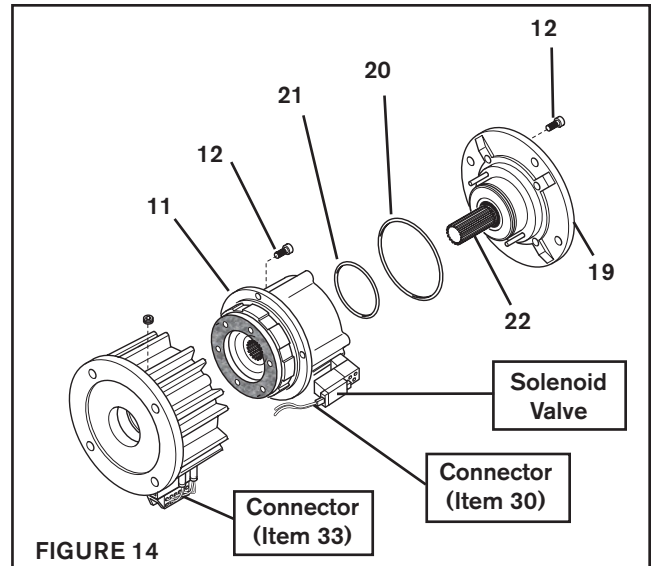

FIGURE 14
1. Disconnect the Red and Black leads from the Connector (Item 30), located on the Solenoid Valve, from Terminals 5 and 6 of the Connector (Item 33) by pushing a screwdriver into the slot on the top of the Connector; then, pull the two leads from the Solenoid Valve out of the Connector (See Figure 14).
2. Remove the four Socket Head Cap Screws (Item 12) and separate the two halves of the FMCE (See Figure 14).
3. Remove the four Socket Head Cap Screws (Item 12) securing the Male Pilot (Item 19) to the Air Chamber (Item 11) (See Figure 14).
4. Remove the Male Pilot (Item 19) and Stub Shaft (Item 22) from the Air Chamber (Item 11) (See Figure 14).
5. Remove and discard the old O-ring Seals (Items 20 and 21) (See Figure 14).
39. Install the new O-ring Seals (Items 20 and 21) (See Figure 14).
40. Align the Dowel Pins (Item 16) in the Male Pilot (Item 19) with the holes in the Piston (Item 15) (See Figure 14).
42. Apply a drop of Loctite® 242 to the threads of four Socket Head Cap Screws (Item 12) (See Figure 14).
44. Apply a drop of Loctite® 242 to the threads of the remaining four Socket Head Cap Screws (Item 12) (See Figure 14).
45. Slide the Air Chamber (Item 11) into the Housing (Item 1) and install the four remaining Socket Head Cap Screws (Item 12) that secure the Air Chamber to the Housing (See Figure 14).
46. Tighten the four Socket Head Cap Screws (Item 12) that secure the Air Chamber (Item 11) to the Housing (Item 1) to the recommended torque (See Figure 14 and Table 7).